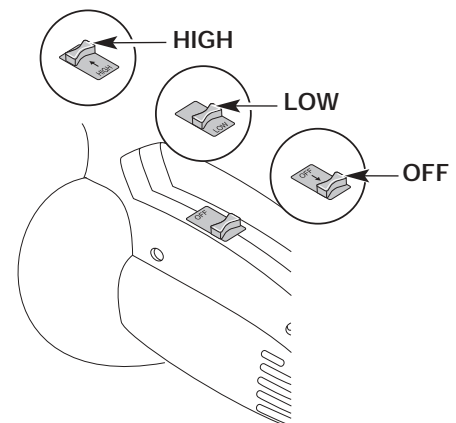

Fig. 11
This unit is equipped with a three-way (OFF/ LOW/ HIGH) switch (Fig. 11):
Once the unit is plugged in, stand in the operating position (Fig. 12). Slide the power/speed switch to LOW or HIGH to start the unit. To stop the unit, slide the switch to OFF (Fig. 11).
1. Slide the Power/Speed switch down in the **OFF** position until the motor/impeller comes to a complete stop (Fig. 11).